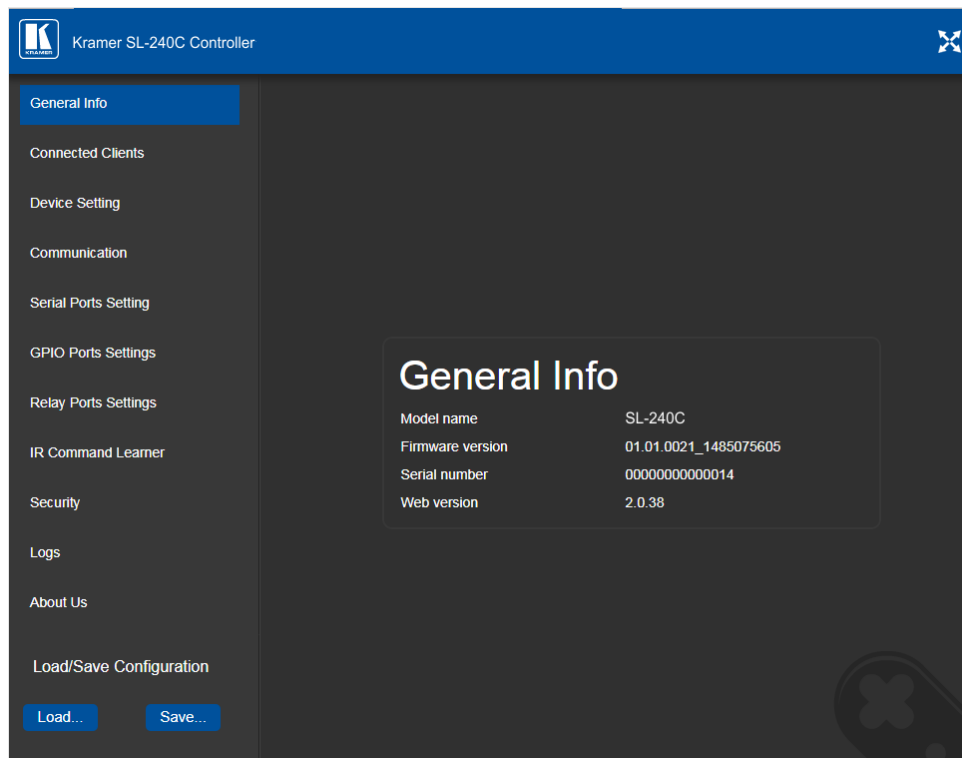

Figure 5: Embedded Web Pages – General Info Page
1. Click **Connected Clients** on the left side of the web page (Figure 5). The Connected Clients page appears.
1. Click **Device Settings** on the left side of the web page (Figure 5). The Device Settings page appears.
1. Click **Device Settings** on the left side of the web page (Figure 5). The Device Settings page appears (Figure 7).
1. Click **Communication** on the left side of the web page (Figure 5). The Communication page appears.
1. Click **Serial Ports Setting** on the left side of the web page (Figure 5). The Serial Ports Setting page appears.
1. Click **GPIO Ports Settings** on the left side of the web page (Figure 5). The GPIO Ports Settings page appears.